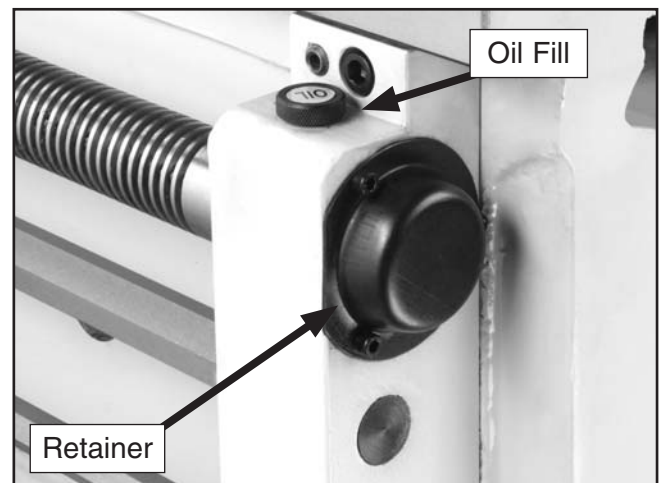

Figure 99. Leadscrew end play adjustment location.
2. Using a 4mm hex wrench, remove the three cap screws and the cover (**Figure 99**).
3. Using a 3mm hex wrench, loosen the retainer set screw (**Figure 99**).